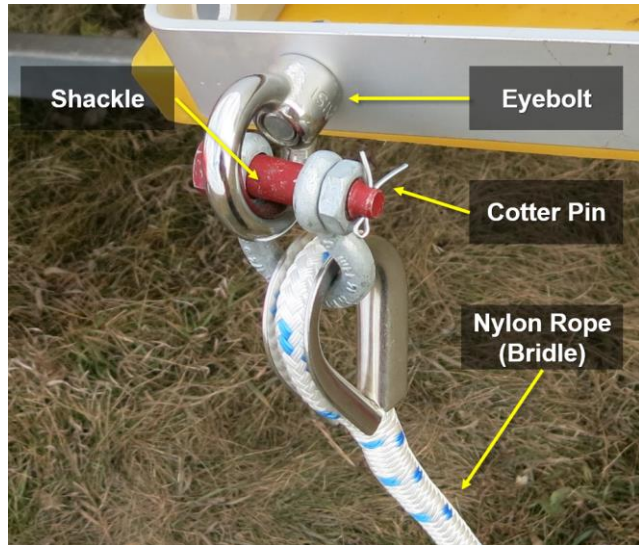

Figure 6. Mooring Bridle Attachment to AIS Lake Buoy
- b. Ensure the mooring bridle is secure to eyebolts via the deck with shackles and the shackle cotter pins are bent (see Figure 6).